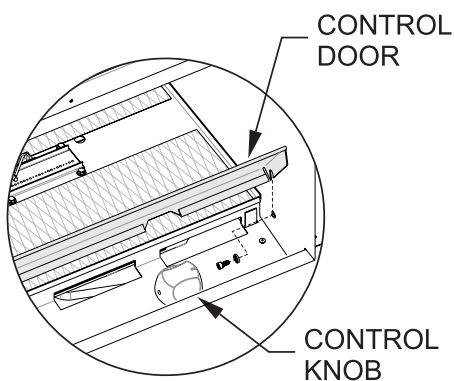

Figure 14
- b. Remove the two control door pivot bolts and washers. **See Figure 14.**